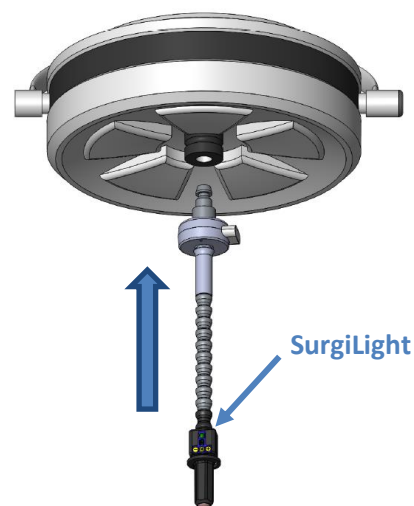

Figure 3.
- 5) Insert the adapter into the now-empty cavity of the overhead light per the overhead light's Instructions for Use, as shown in Figure 3, until the adapter is mounted effectively to the overhead light and is secure.